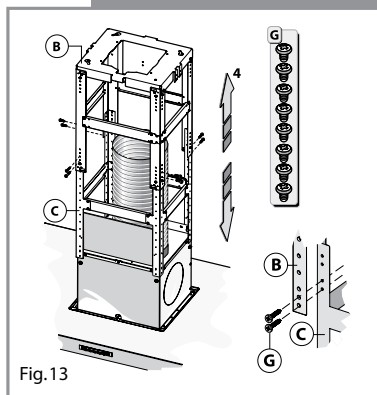

Fig.13
4. Assemble the upper (B) and lower (C) support sections at the desired height (as calculated in step 3) using the supplied screws (G) as shown in fig 13.